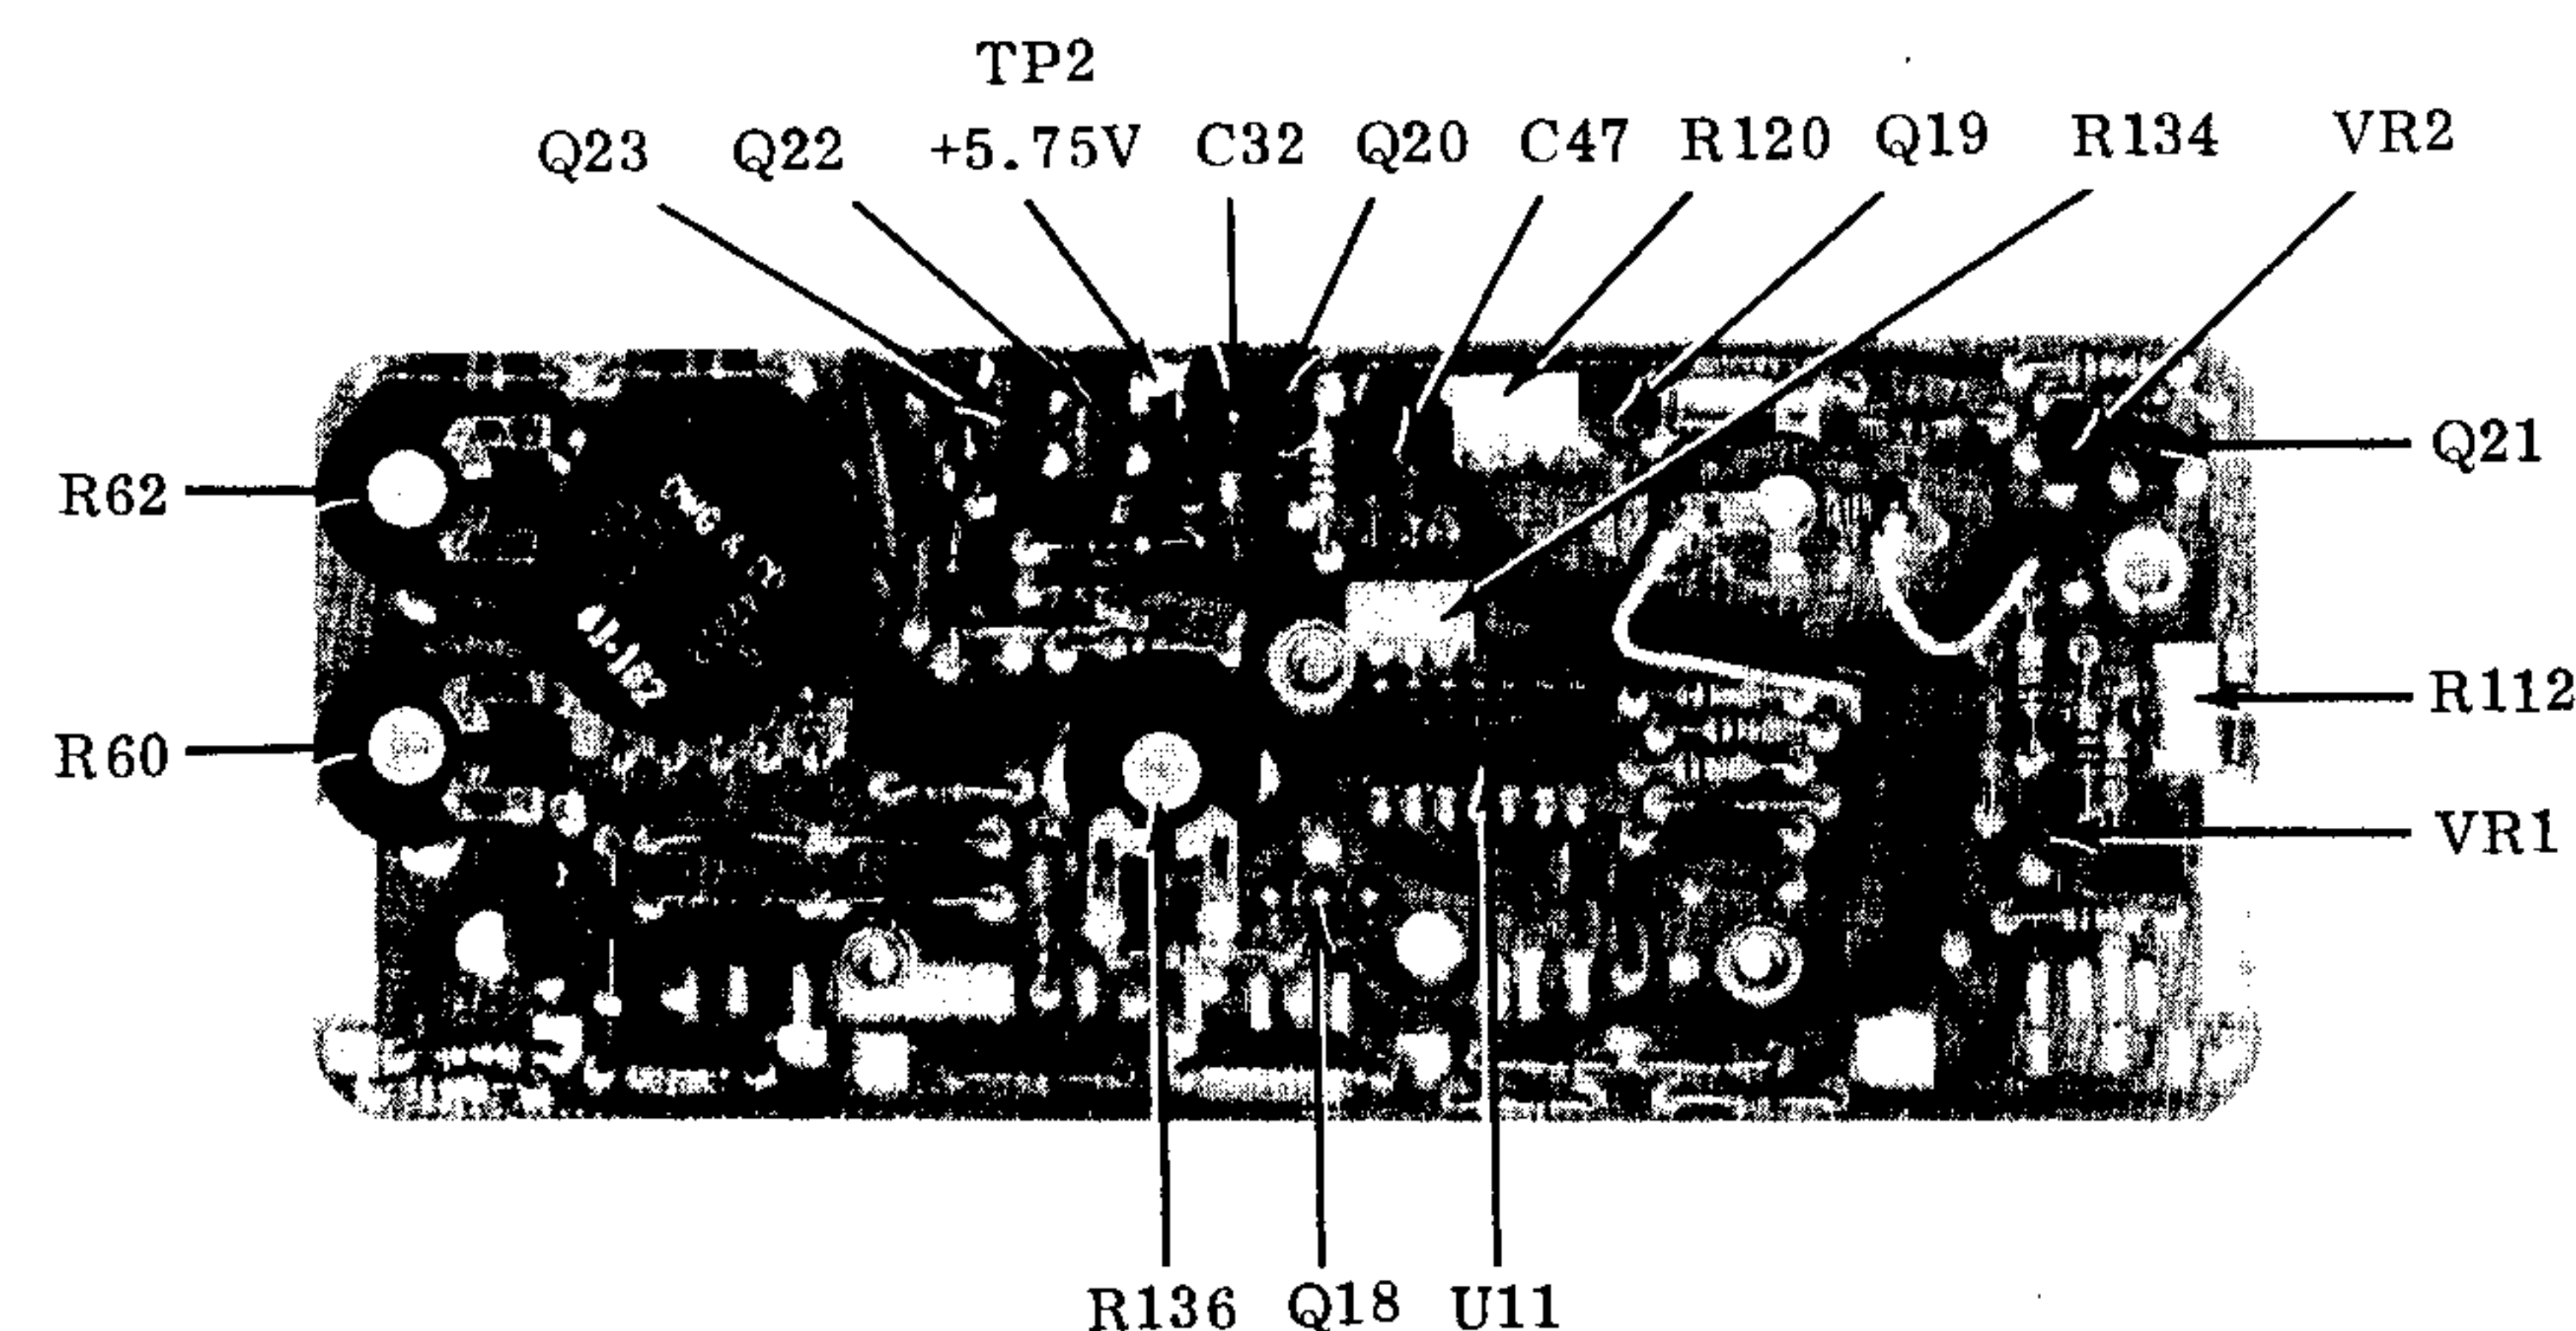

Figure 4-1. Component Location - Rear Board
3-4. Besides internal triggering, the scope can also be triggered from an external signal, the power line, or the horizontal sweep will free run if there is no triggering sources available. In following the various internal circuit descriptions below, refer to figure 3-1 - see also figures 4-1 and 4-2 for component location.
- b. Using another oscilloscope with vertical deflection calibrated to 1% or better, connect its ground to MS-215 ground and its input to upper fuse terminal. Also connect a 2 k $\Omega$  resistor from upper fuse terminal to ground. Adjust R112 (figure 4-1) until peak-to-peak voltage measures 7.2 VDC.
- d. Check to see that red power indicator LED on front panel is illuminated. If not, adjust R120 (figure 4-1) CCW and turn PWR switch off and then on again.
- e. Connect an LM-3.5A between TP2 (figure 4-1) and ground.
- f. Adjust R120 (figure 4-1) until multimeter reads +5.75 VDC.